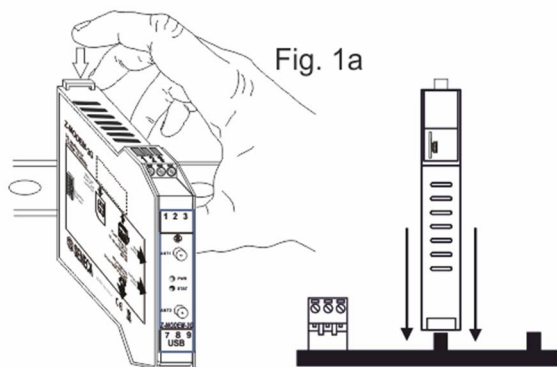

Fig. 1a
- 3) To secure the module to the guide, tighten the four hooks on the side of the IDC10 rear connector as shown in fig. 1a.